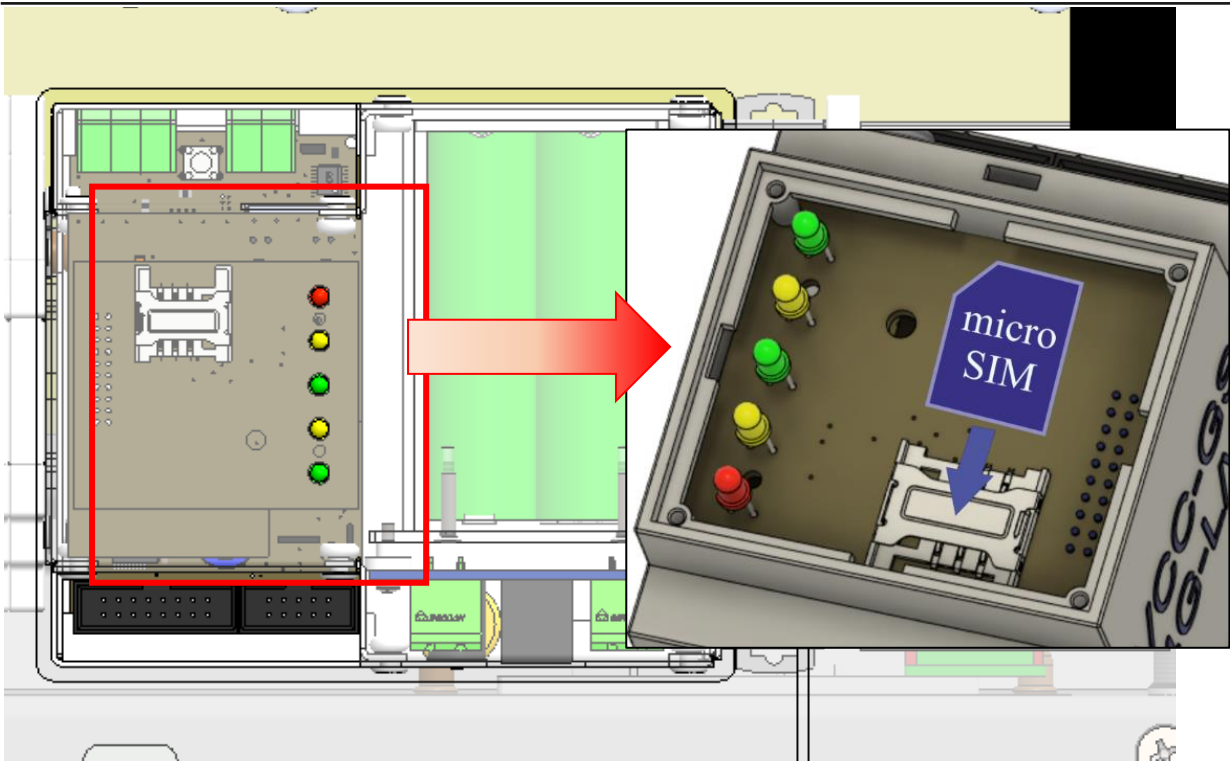

Figure 5.14. Installing a SIM-card into the GSM-module
2. Install a SIM card from your mobile network operator (if you are using an external SIM card) (fig. 5.14):